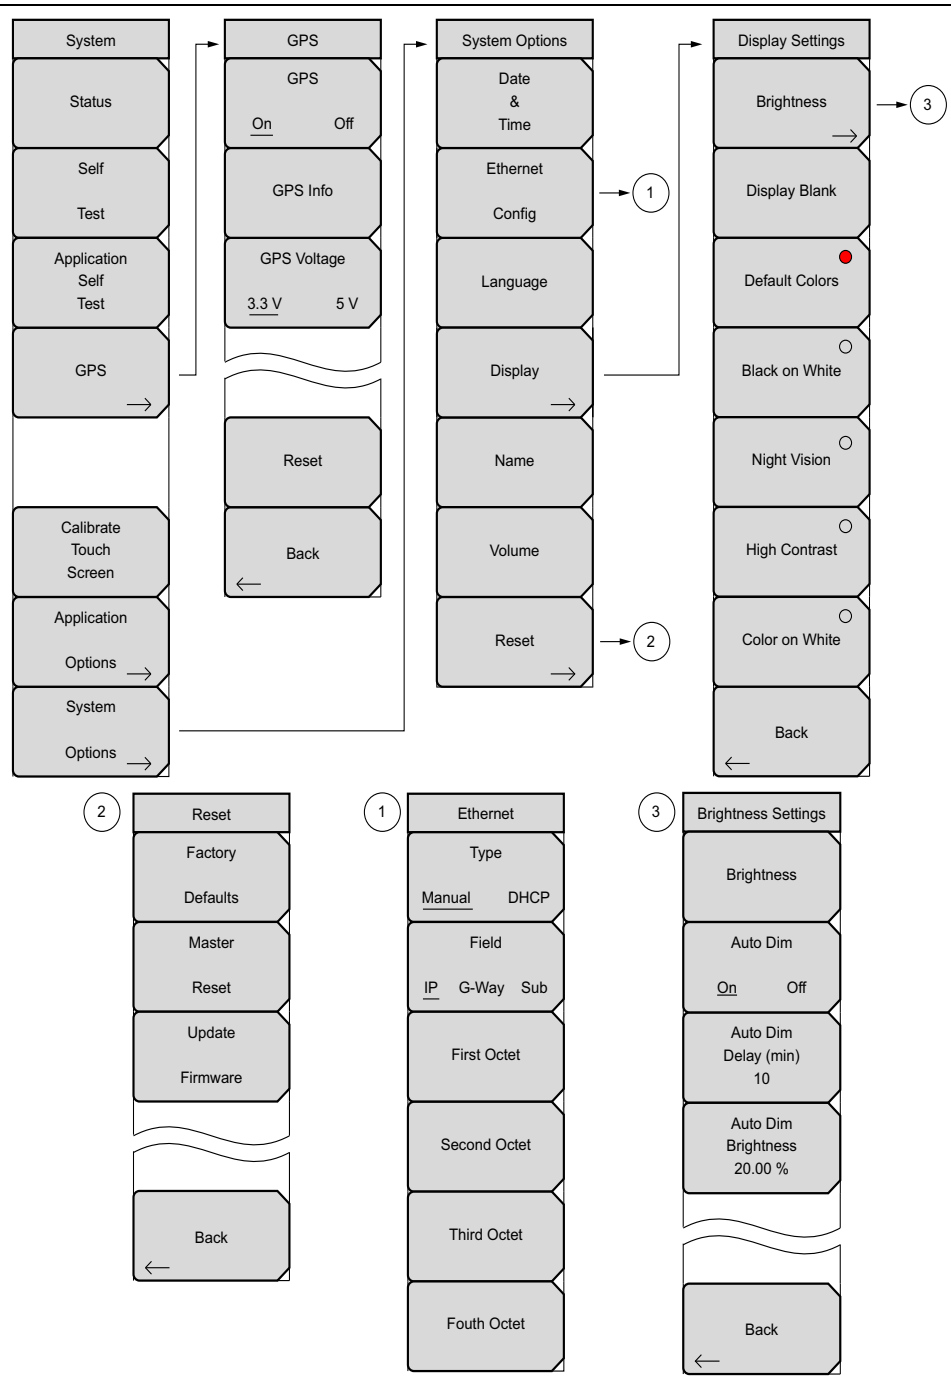

Figure 5-1. System Menu Map
To access the functions under the System menu, press the **Shift** key, then the **System (8)** key. Figure 5-1 show the menu group that is accessible from the System menu. Menu maps typically display all possible submenu keys, although some keys are displayed on the instruments only under special circumstances (refer to the menu descriptions on the following pages).